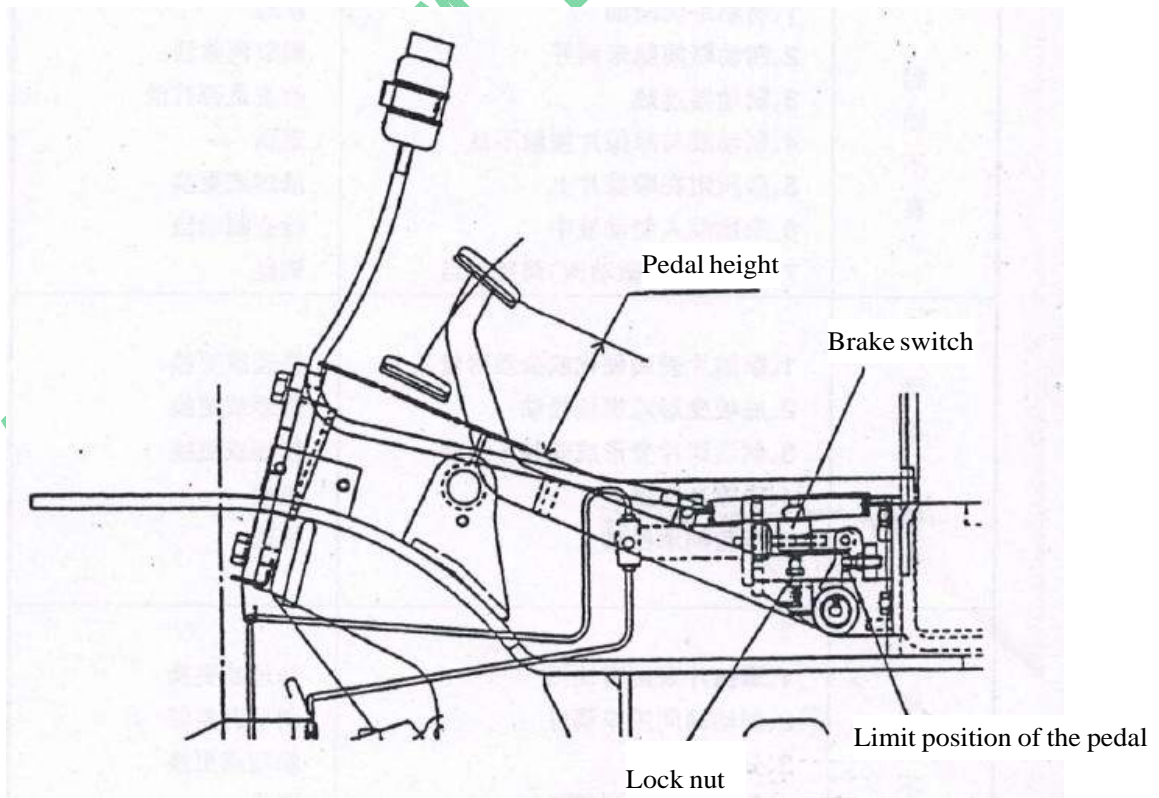

Fig. 2-28
- (1) Shorten the push rod;
- (2) Regulate the lock bolt and regulate the pedal height as shown in Fig. 2-28;
- (3) Tread down the brake pedal and elongate the push rod until the front end of the push rod contacts the piston of the master cylinder;
- (4) Tighten the lock nut of the push rod.